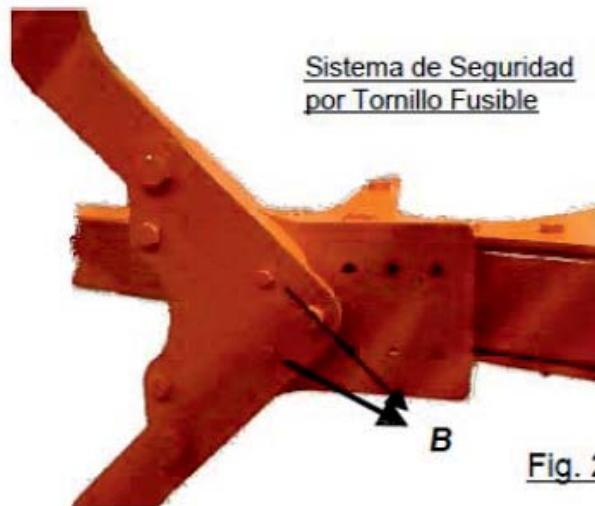

Fig. 2
3.1.- Shear bolt Protection: In the **SLF** and **SSF** models, protection is achieved by means of shear bolts (Fig.2). When the share point meets an obstacle, the shear bolt breaks and permits the beam to pivot back around its bedding. To continue work, swing back the beam to its original position and replace the shear bolt B.